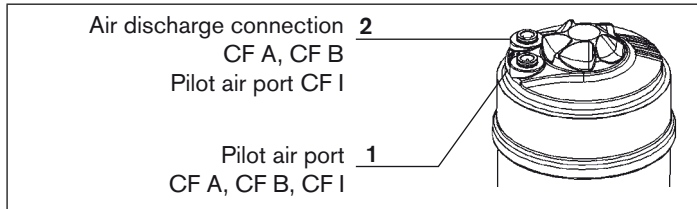

Fig. 17: Pneumatic Connection
→ Connect the control medium to the pilot air port 1 of the actuator (see "Fig. 17: Pneumatic Connection").
→ Plug the silencer into the free air discharge connection 2 (see "Fig. 17: Pneumatic Connection").
- Connect the control medium to the pilot air port 1 and 2 of the actuator (see "Fig. 17: Pneumatic Connection")